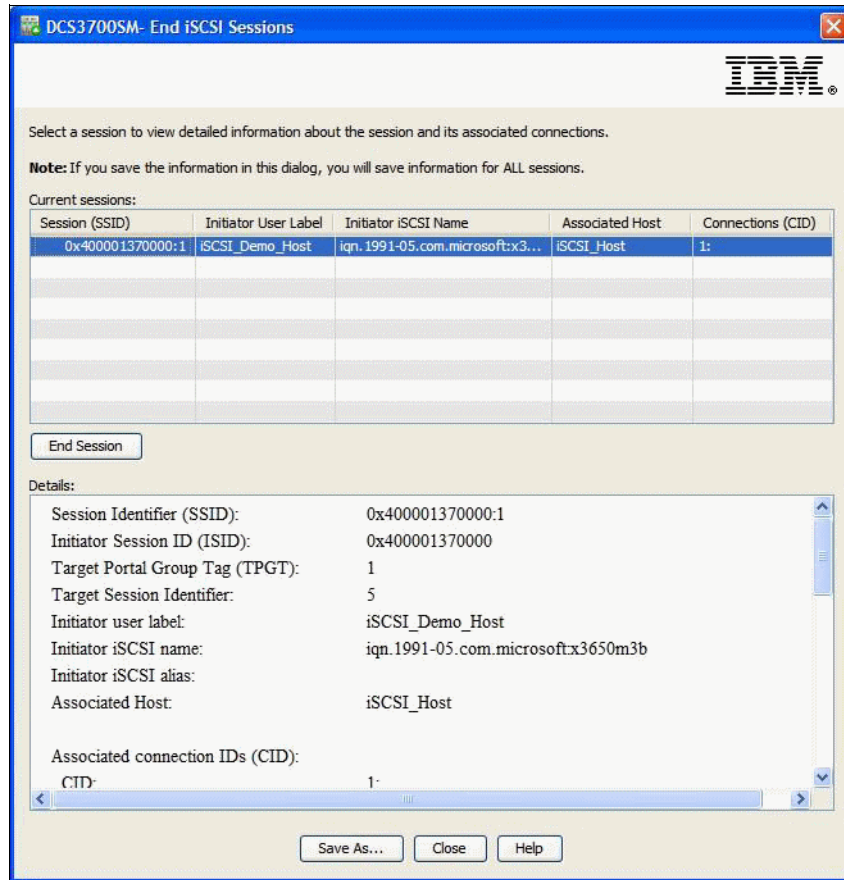

Figure 12-17 End iSCSI Sessions
- The window that is shown in Figure 12-17 opens. In the top pane, you can see all the sessions. Select a session to see its details in the lower pane.
Example 12-1 shows the complete session information for the selected initiator in Figure 12-17. This output can help verify that the host setup was done correctly.